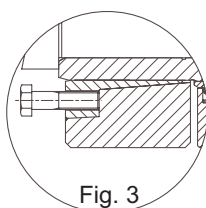

Fig. 3
- If the coupling rings do not come apart spontaneously after unscrewing the bolts, transfer some of the bolts (two bolts at 180° - four bolts at 90°) into the internal ring extraction holes(see fig. 3).